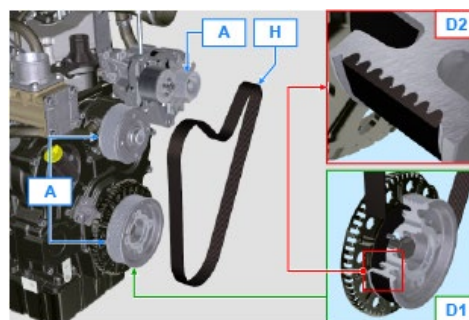

Fig 11.10
2. Remove the belt **H** (**Fig. 11.10**).